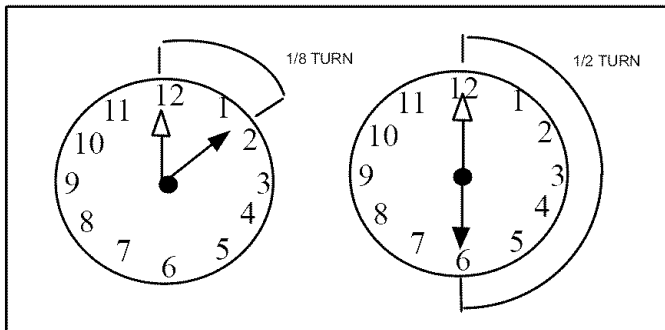

Figure 22. Tightening Distance
- Attach the stubbed end of the CTXV to the liquid line orifice housing. Finger tighten and use an appropriately sized wrench to turn an additional 1/2 turn clockwise as illustrated in figure 22, or 20 ft-lb.
- Attach the liquid line assembly to the CTXV. Finger tighten and use an appropriately sized wrench to turn an additional 1/2 turn clockwise as illustrated in figure 22, or 20 ft-lb.
- Connect the equalizer line from the TXV to the equalizer suction port on the suction line. Finger tighten the flare nut plus 1/8 turn (7 ft-lbs) as illustrated in figure 22.